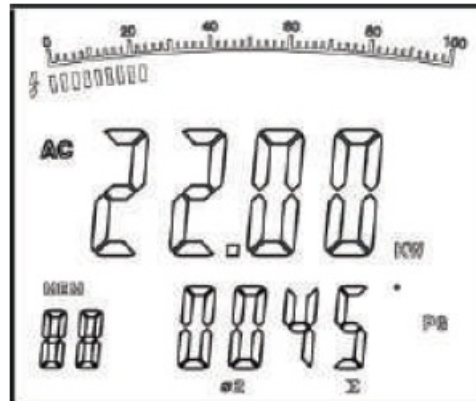

Figure 10
3. If necessary, press Σ to get the sum of watts as figure 10.